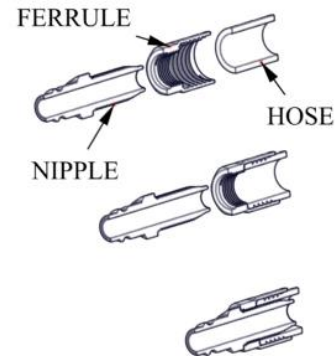

Figure 3-1. Air Hose Nipple Replacement
a. **AIR HOSE NIPPLE REPLACEMENT.** Refer to figure 3-1 and replace a worn or otherwise damaged air hose nipple in accordance with the following procedure.